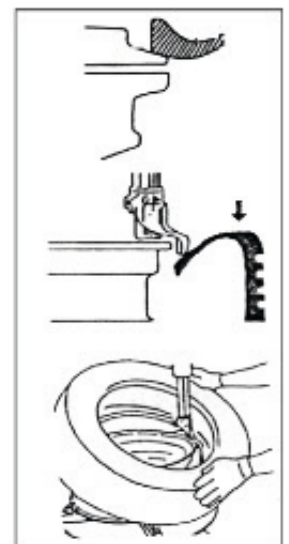

fig18
Place the demount head (4) on the edge of the rim, and move the air valve aim at the mount/demount head. (Fig. 18)
Place one side of the tyre on the upside of the tail of the mount/demount head (4), then press the other side of the tyre under the mount/demount head (4), to make the tyre enter the groove of the rim. (Fig. 18) Pressing the pedal (8) to turn the turntable clockwise, and complete mount the bottom part of the tyre on the rim.